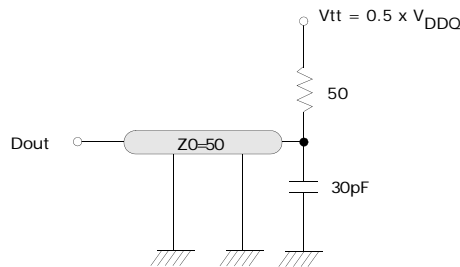

Figure 47.1 PAR Mode Execution and Exit
- Output load (See Figure 47.1): $CL=50pF$